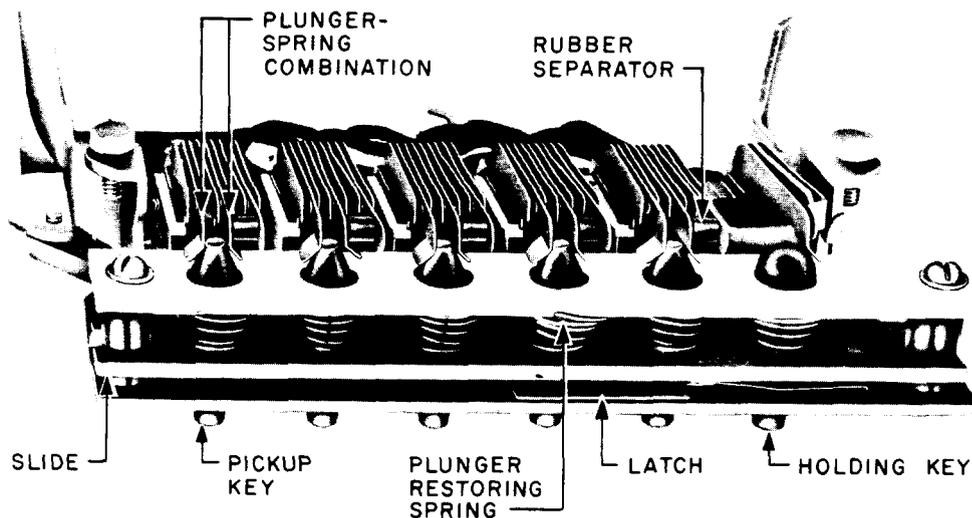

Fig. 2 — 562-type Key
5.01 In order to make key contacts (Fig. 2) accessible, open set and remove two hexagonal head screws holding key frame to base. Turn key over, taking care not to put excessive strain on connections. (Hexagonal head screws are found on underside of set base, near pads of front feet.)
- On sets equipped with a latch, Fig. 2, neither plunger associated with latch shall lock when both are operated together.